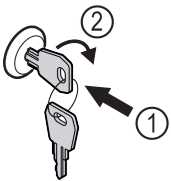

Fig. 123 Example illustration
- ▶ Insert key Fig. 123 (1).
- ▶ Turn key clockwise by 90° Fig. 123 (2).